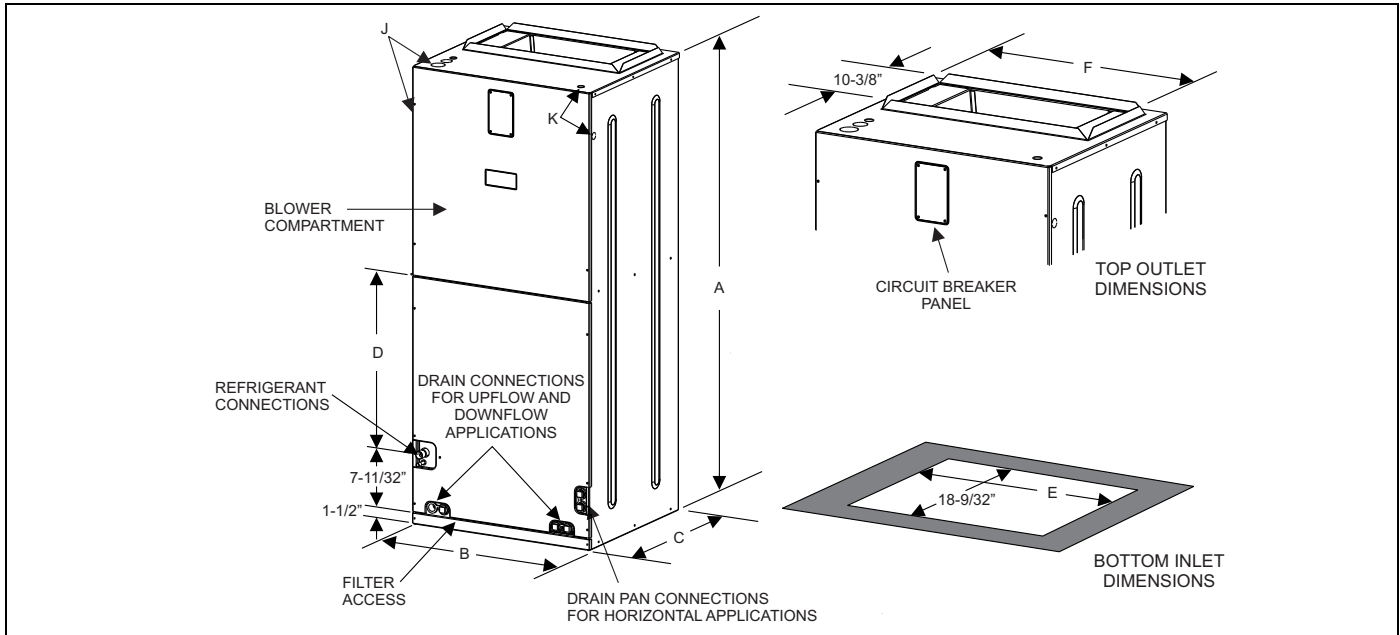

FIGURE 3: Dimensions & Duct Connection Dimensions
2. Refer to the unit rating plate for the air handler model number, and then see the dimensions page of this instruction for supply air plenum dimensions in Figure 3. The plenum must be installed according to the instructions.
Air supply and return may be handled in one of several ways best suited to the installation. See Figure 3 for dimensions for duct inlet and outlet connections.
The supply air duct should be properly sized by use of a transition to match unit opening. All ducts should be suspended using flexible hangers and never fastened directly to the structure. This unit is not designed for non-ducted (freeblow) applications. Size outlet plenum or transition to discharge opening sizes shown in Figure 3.
Air filters must be field supplied. A 1" filter access rack has been built into the unit. See Figure 3. Remove filter access cover shown. Install proper size filter. Standard 1" size permanent or throw away filter may be used, or, permanent washable filters are available using model numbers: 1PF0601, 602, 603BK. See Table 7 for filter size.
Field supplied low voltage wiring can exit the unit on the top right hand corner or the right hand side panel. Refer to Figure 3.